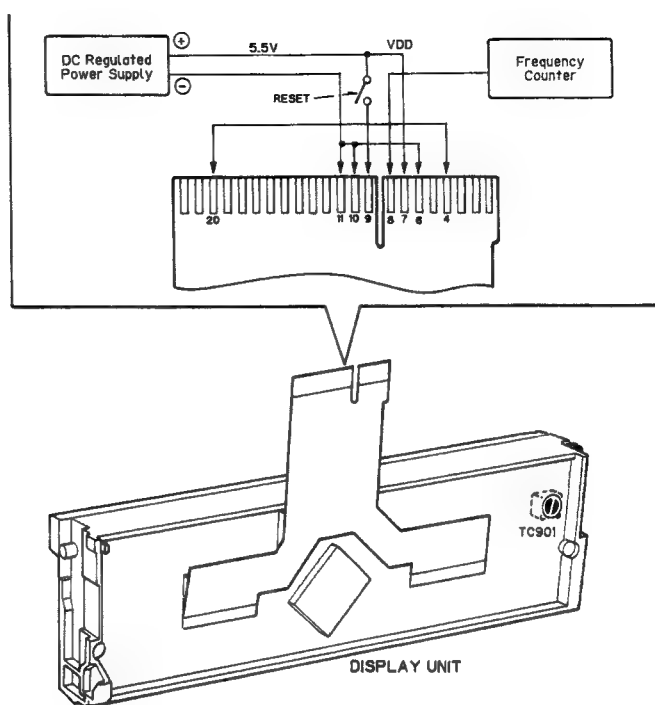

Fig. 10
1. Remove the display unit. Because the display unit is connected as shown in the Fig. 10, set the RESET switch to ON to reset the display unit.